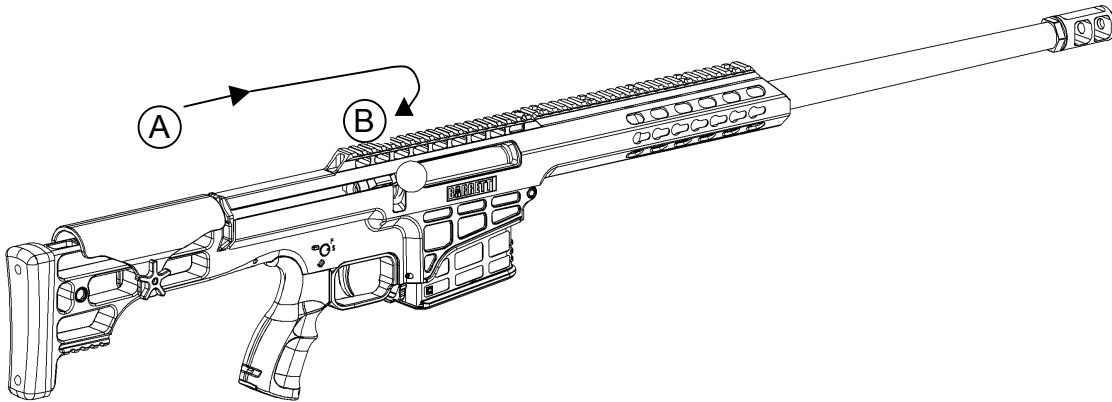

Figure 6. Step A and B. Closing the Bolt
4. Push the bolt handle forward (Figure 6, Step A.) which will load a cartridge into chamber, and rotate the bolt handle down (Figure 6, Step B), locking the breech.